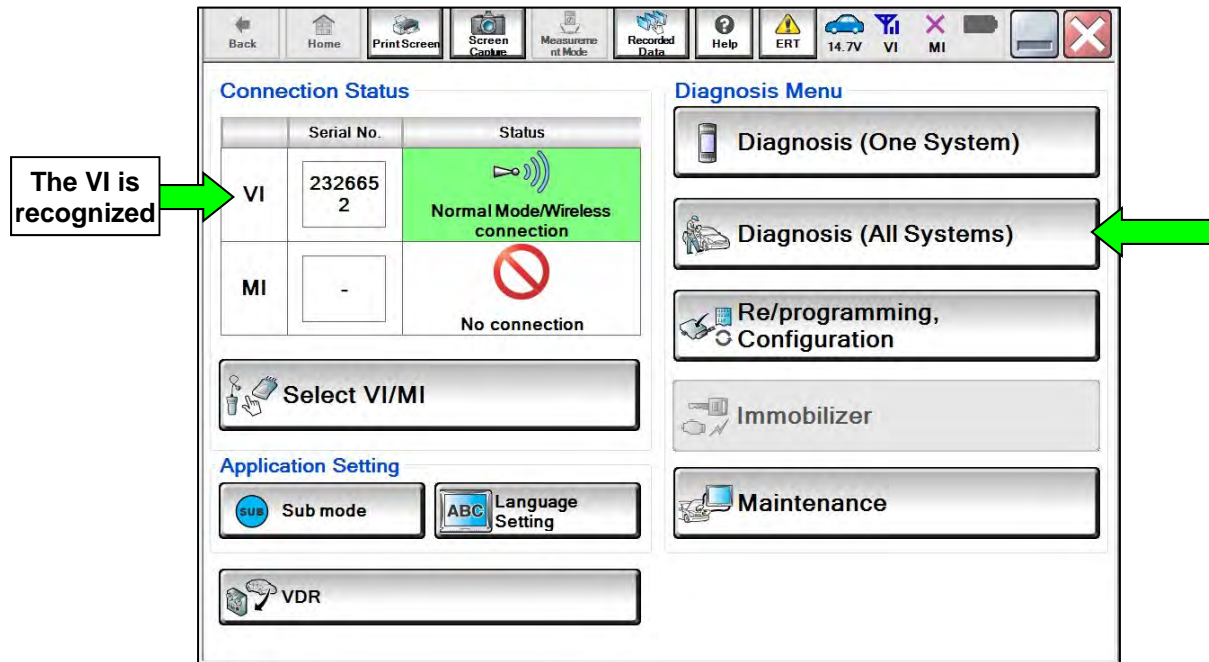

Figure 1
7. Wait for the VI to be recognized (Figure 1).